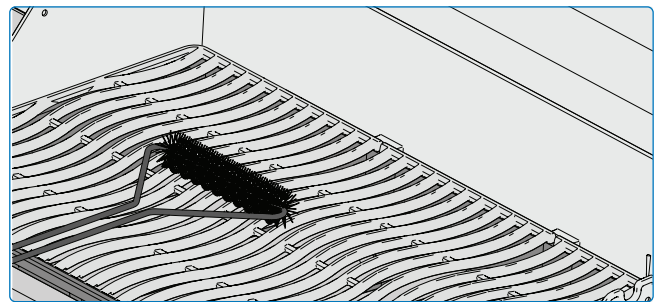

Fig. 18
- To clean, preheat the grill and use a wire brush to remove food residue (**Fig 18,19,20**)